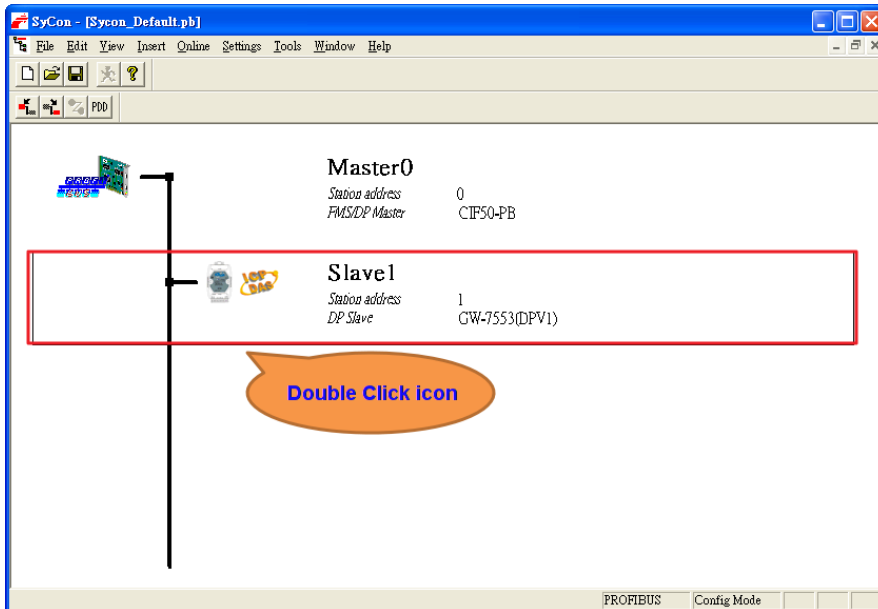
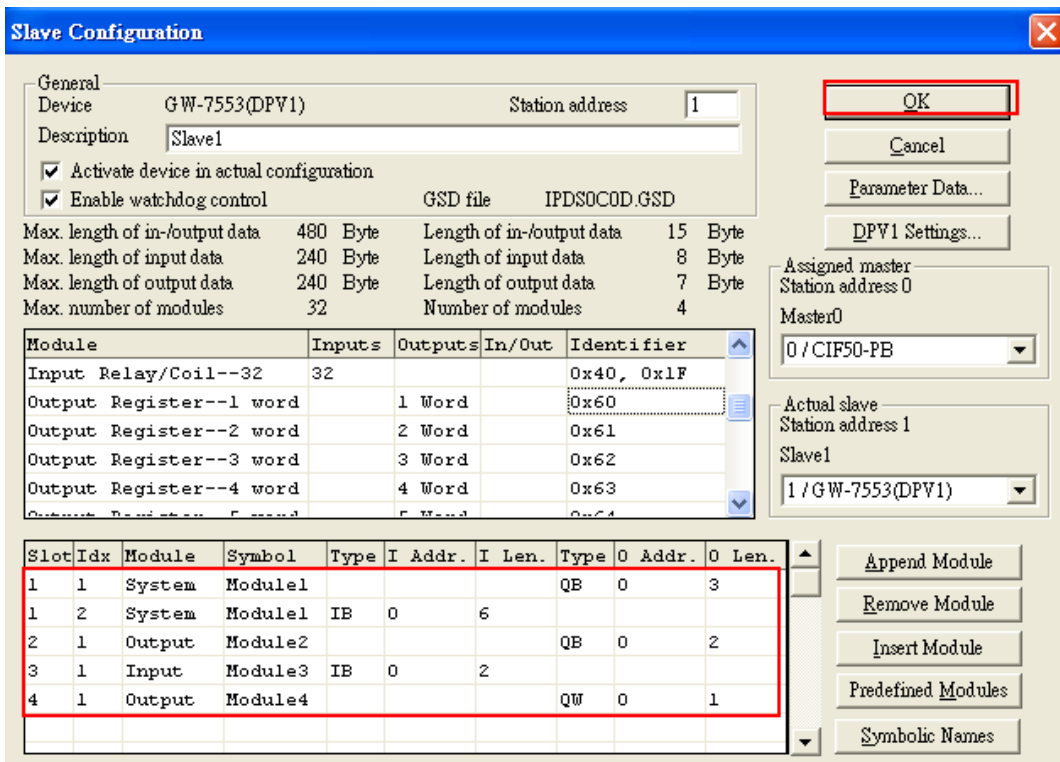

Figure 38 Double click the GW-7553 icon to open the “Slave configuration” window
Figure 39 Select modules
Step 4: Set the GW-7553 modules, as shown in **Figure 38** and **Figure 39**.
In this case, slot 3 is used for “Input Relay/Coil--2 Byte” (see *Figure 39* Select